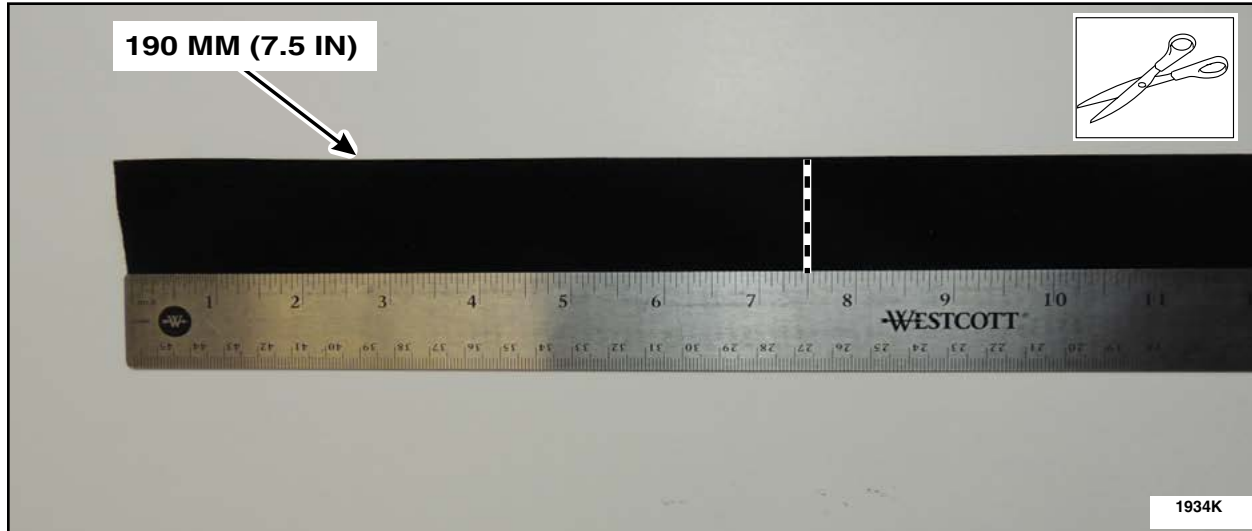

FIGURE 2
4. Measure and cut one piece of flocked tape 190 mm (7.5 in) in length. See Figure 2.